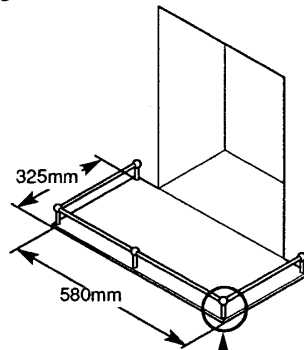

Fig. 8
3. Alternatively, a fender rail or upstanding edge of 50mm (2in) height can be fitted to the periphery of the 13mm (½in) non-combustible hearth (Fig. 8).